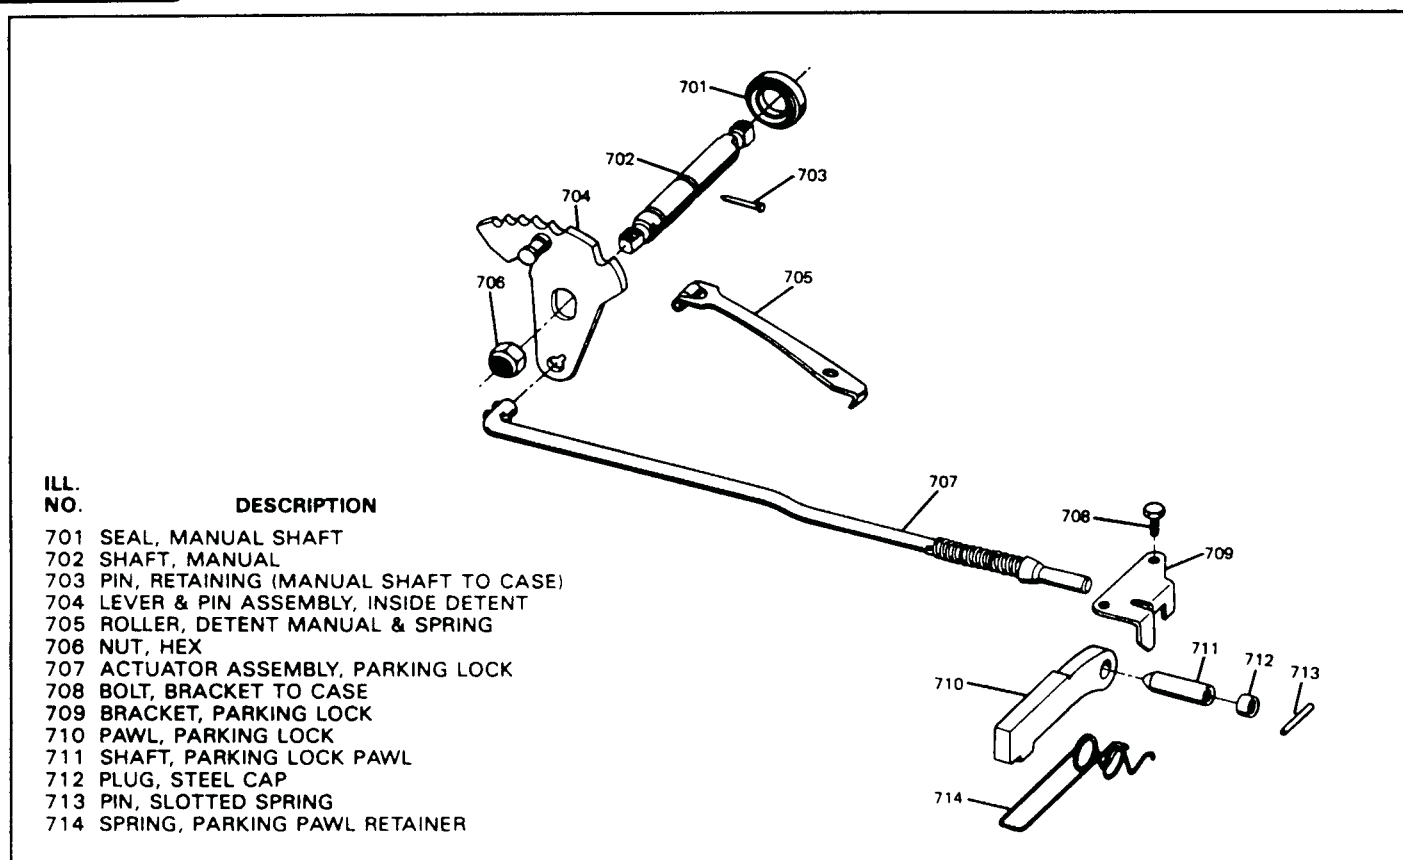

Figure 55
10. Remove hex nut and the inside detent lever shown in Figure 55.
11. Remove the parking actuator rod assembly shown in Figure 55.
12. Remove the retaining pin (Nail) from case that is holding the manual shaft (See Figure 55).